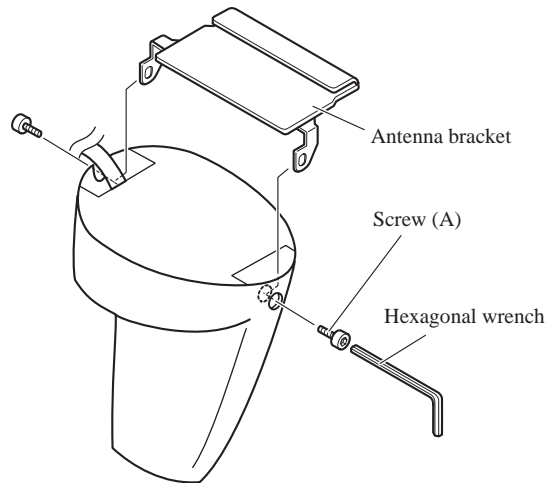

Fig. 2
1. Install the antenna bracket. (Fig. 2)